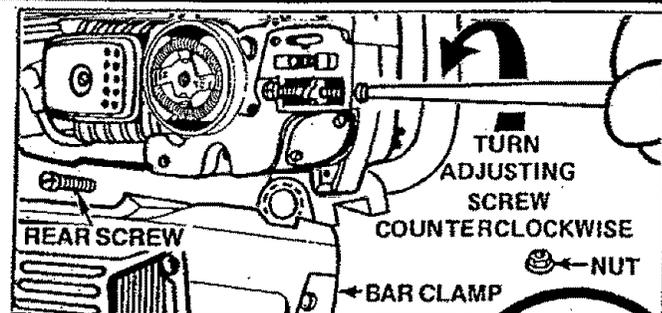

Figure 7
- Remove the following parts as shown in Figure 7. Use the Bar Adjusting Tool and Hex Wrench provided with the unit.
2. Turn the Adjusting Screw counterclockwise  to move the Adjusting Pin almost as far as it will go to the rear. Figure 7.
5. Place the Guide Bar on the saw with the large slot over the Bar Stud and the Mounting Pins (on either side of the Bar Stud). Fit the adjusting pin into the round hole below the large slot. Figure 7 and 9.